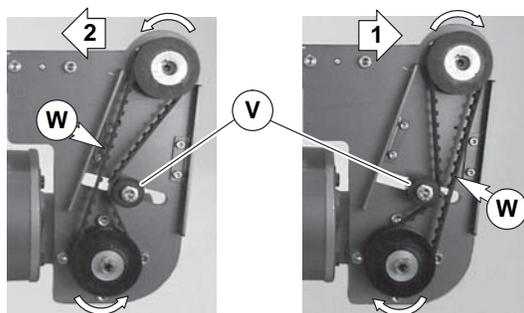

Figure 16
- Depending on conveyor belt travel (direction 1 or 2), locate timing belt tensioner (Figure 16, item V) as shown. Tension timing belt to obtain 0.125" (3 mm) deflection for 1.0 lb (456 grams) of force at timing belt mid-point (W). Tighten tensioner screw to 103 in-lb (12 N-m).
3. Depending on conveyor belt travel (direction 1 or 2), locate timing belt tensioner (Figure 16, item V) as shown. Tension timing belt to obtain 0.125" (3 mm) deflection for 1.0 lb (456 grams) of force at timing belt mid-point (W). Tighten tensioner screw to 103 in-lb (12 N-m).
5. Depending on conveyor belt travel (direction 1 or 2), locate timing belt tensioner (Figure 16, item V) as shown. Tension timing belt to obtain 0.125" (3 mm) deflection for 1.0 lb (456 grams) of force at timing belt mid-point (W). Tighten tensioner screw to 103 in-lb (12 N-m).